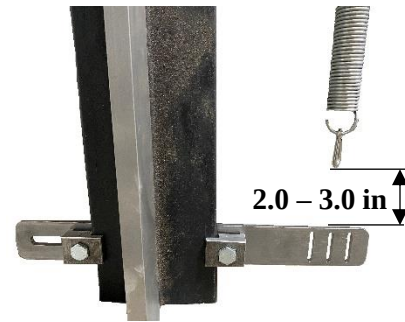

Figure 4: Distance from Bottom Carabiner of Tension Spring to Top of the Rail Fastening Plate
- a. Choose a hole such that the distance between the bottom of the spring's bottom carabiner and the top of the Rail Fastening Plate is between 2.0 – 3.0 inches when the spring is hanging and unstretched. See Figure 4